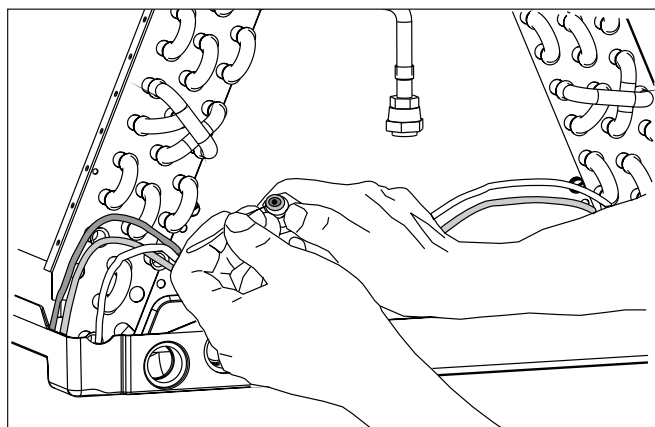

Figure 5. Restrictor Insertion in Distributor Body
5. Insert the new orifice in the distributor body, rounded end down. (See Figure 5)